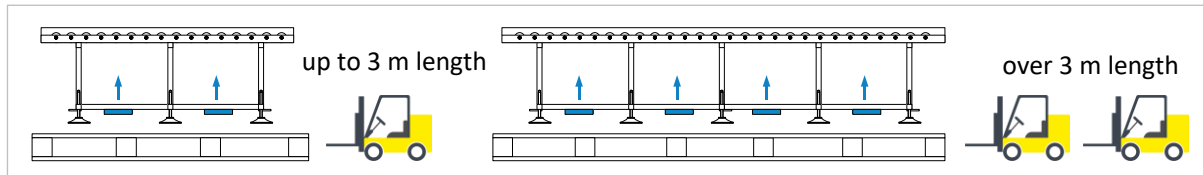

Figure 6: Lifting from the pallet with forklift truck
- Guide the appropriately spaced forks to the points marked in ⇒ Figure 6 (left).
- Guide the appropriately spaced forks to the points marked in ⇒ Figure 6 (right).